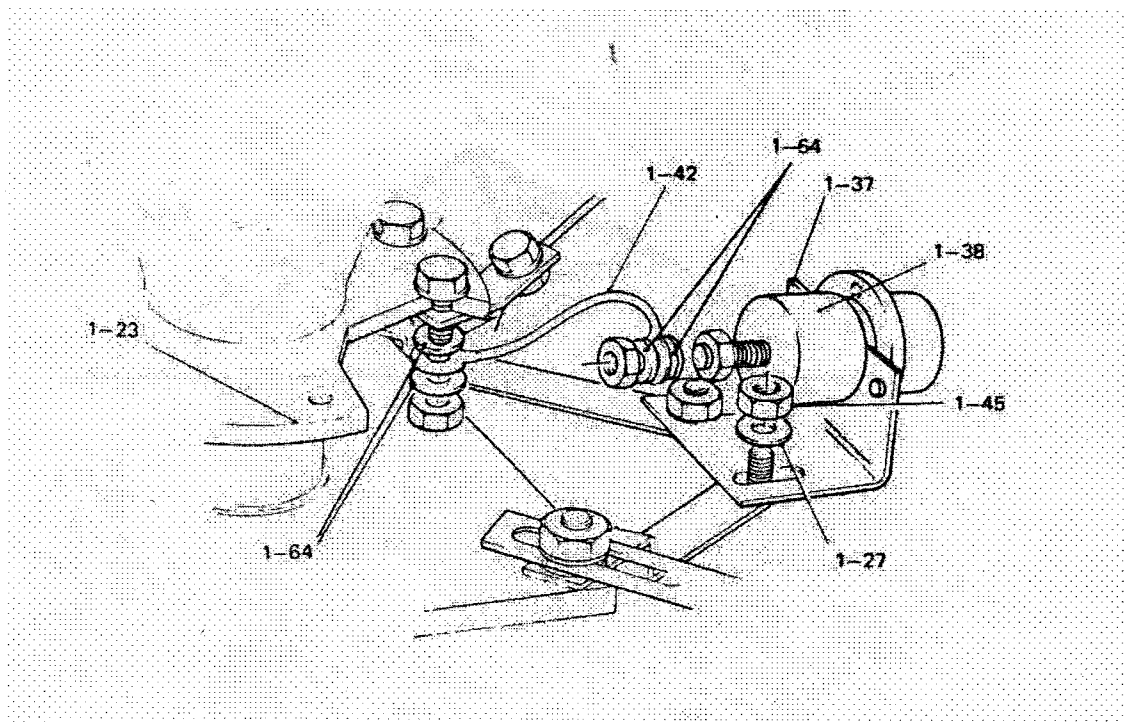

FIGURE 20 – Fitting the Input Connector
Step 14 -Fix the open wire adapter support bracket (1-37) to the base strap connectors fixed to ragbolts (1-45) and secure with washers (1-27) and nuts (1-45). Fit the open wire adapter (1-38) and connector (1-42), and couple to the insulator top unit (1-23), as shown in Fig. 20. To ensure that a satisfactory connection is made discard spring washer (1-36) under the insulator top unit and use plain washers (1-64). See drg no 2/34548 for fitting of lightning arrester & static drain resistor if supplied